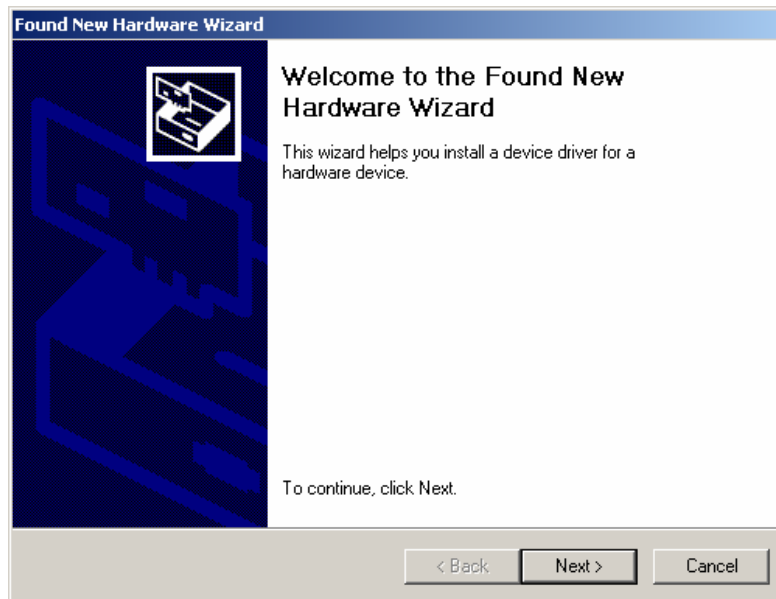

Figure 26. Found New Hardware Wizard Window
4. Now, verify that the "Found New Hardware Wizard" window is displayed as shown in Figure 26.